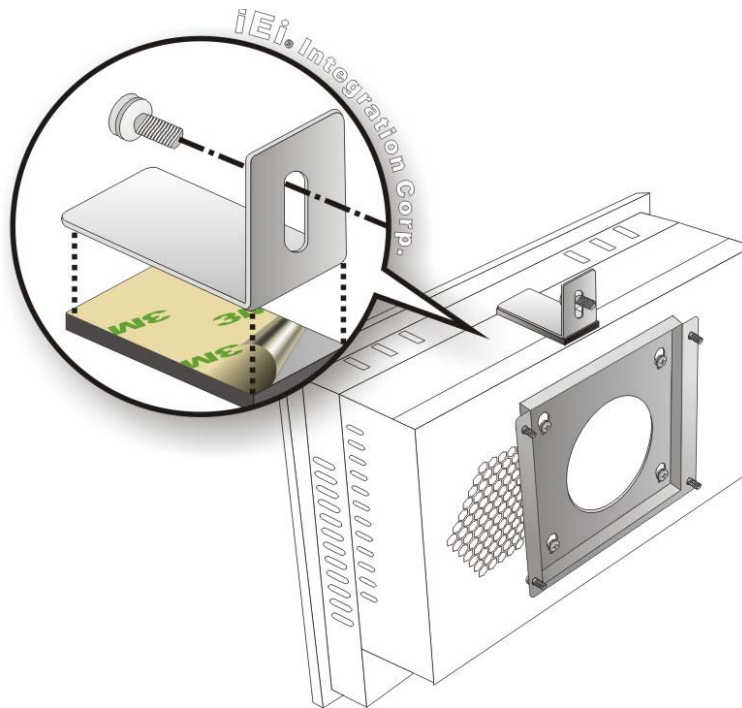

Figure 3-26: Secure the Chassis
Step 9: Secure the panel PC with the wall-mounting kit. To do this, stick the protective cushion to the wall-mounting kit first. Then, put the wall-mounting kit on the top panel of the panel PC. Carefully mark the location of the wall-mounting kit screw holes on the wall. Drill a pilot hole at the marked location on the wall. Secure the wall-mounting kit to the wall by inserting a retention screw into the pilot hole on the wall (**Figure 3-26**). This step is to avoid the panel PC being pushed apart from the wall-mounting bracket accidentally.